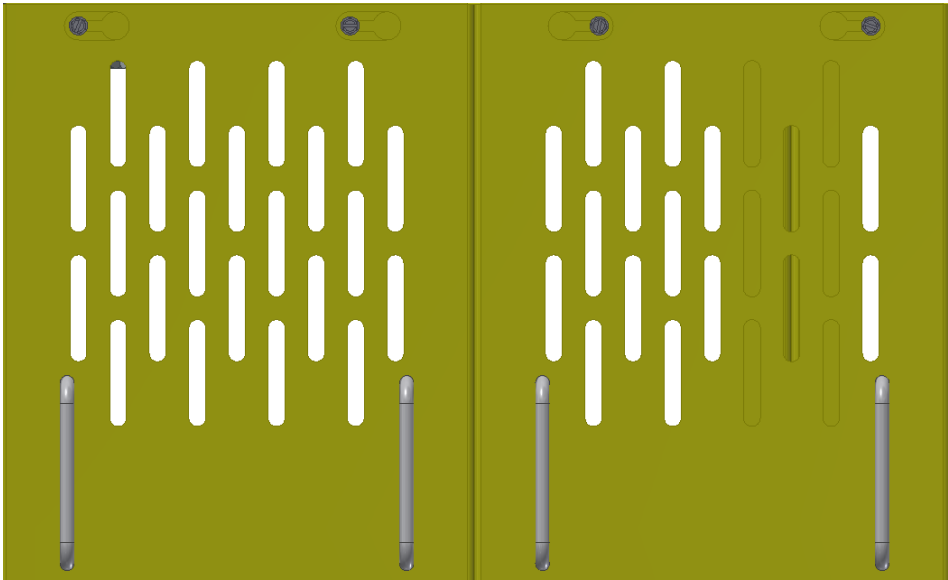

Figure 24: Machine Guard Motor Panel Attachment
- Attach the Machine Guard Motor Panels (p/n's \_ \_-239 & \_ \_-240) and tighten the #10-24 screws as shown below (Figure 24).